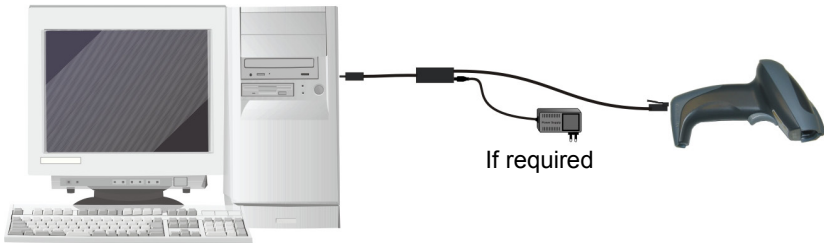

Figure 5 – USB Connections
1. Make all the Gryphon™ D432/D432E reader connections as shown in Figure 5.